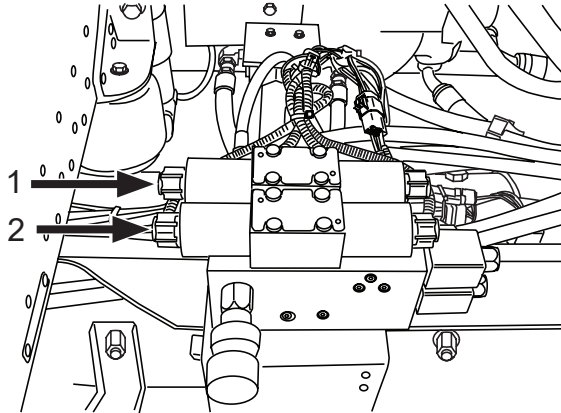

Figure 59
6. Manually shift the start/stop valve spool by pressing in on the end of the spool (Figure 59, Item 1).
- Engage the Bridgemaster axle function by manually shifting the start/stop valve spool (Figure 59, Item 2).